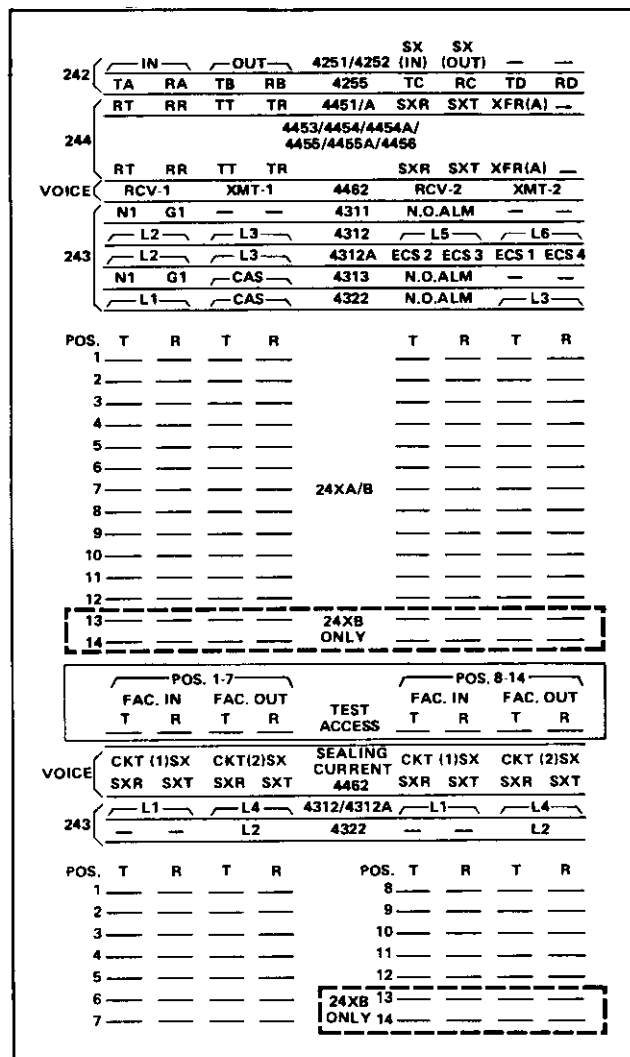

figure 2. Pin arrangement for 80-0088 cross-connect terminal block
2.06 An optional terminal block (Tellabs part number 80-0088) is available for use as a compact cross-connect frame in conjunction with one 24XA or 24XB Assembly. Connections from the Assembly are made via five 25-pair male Amphenol-type cable connectors on the block. External connections to the block are made via wire-wrapping to the 176 pins also located on the block. The block is typically mounted on a relay rack, but its compact size (about 7.5 inches long, 5.5 inches wide, and 2.6 inches deep) allows it to be mounted in almost any convenient location. Figure 2 shows the wire-wrapping pin arrangement for the 80-0088 block. For additional information, please contact Tellabs Customer Service at your Tellabs regional office or at our U.S. or Canadian headquarters (see paragraph 5.03).